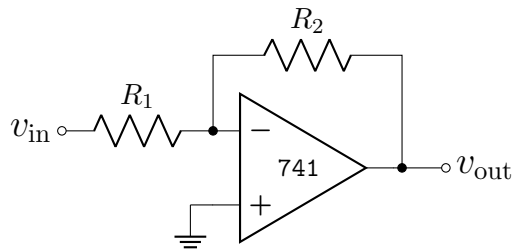

Figure 2: Operational feedback amplifier (“inverting amplifier”)
1. Construct the operational feedback amplifier shown in Fig. 2 with  $R_1 = 1\text{ k}\Omega$  and  $R_2 = 20\text{ k}\Omega$ . Note that the DC supply voltages are not shown in the circuit diagram. The voltage supply connections are often not shown in op amp circuits, but they are nevertheless required. You must connect  $V_S = \pm 15\text{ V}$  across the proper terminals and ground (common), even though not shown in the schematic.